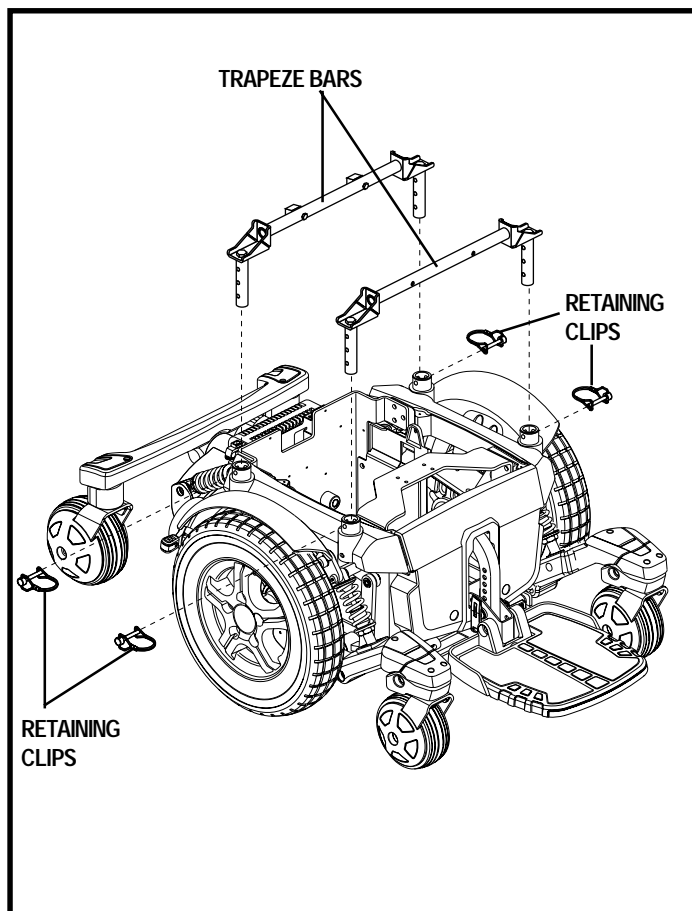

Figure 15. Seat Height/Angle Adjustment
8. Remove the retaining clips that attach the trapeze bars to the seat mount connectors. See figure 15.